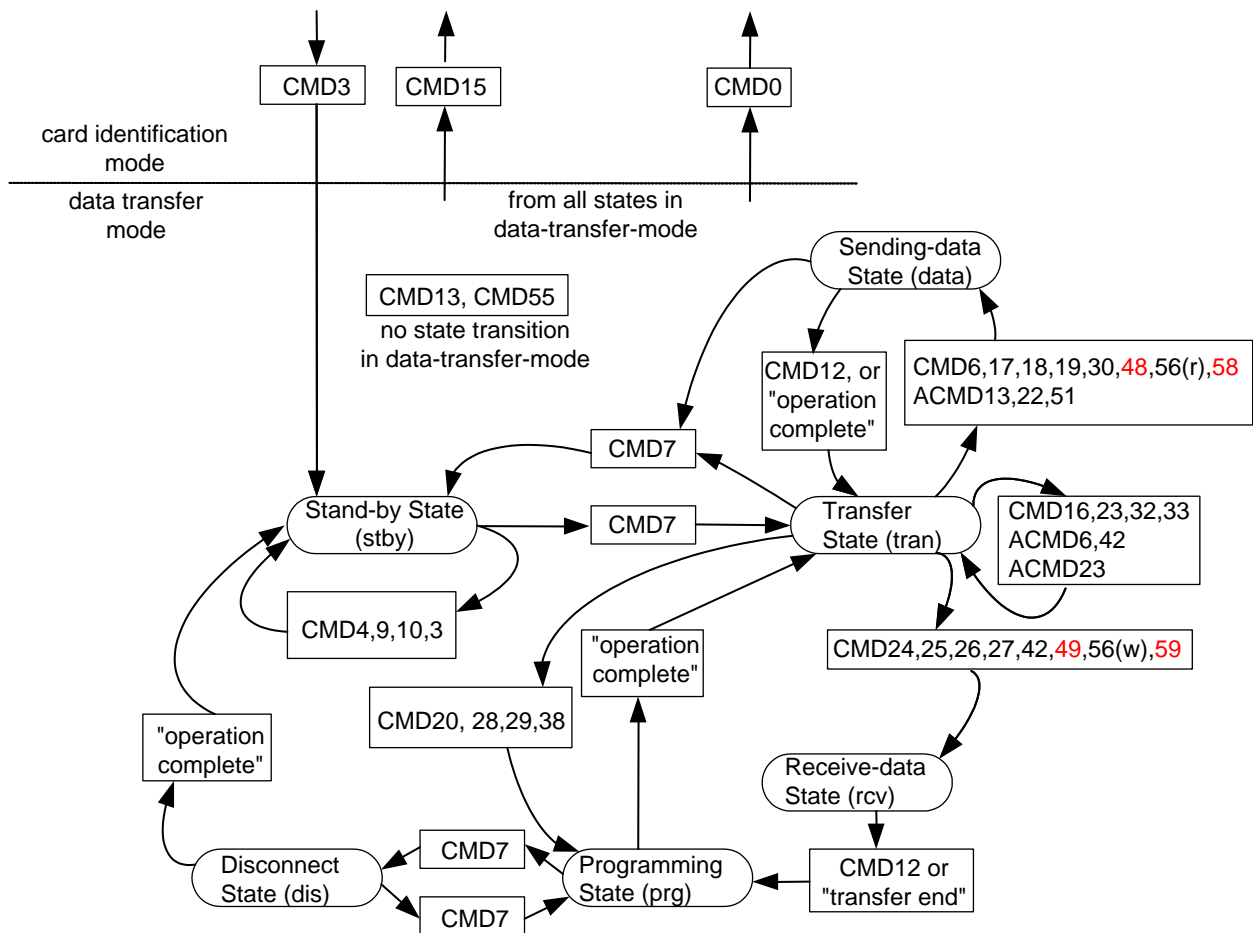

Figure 4-13: SD Memory Card State Diagram (data transfer mode)
- All data read commands can be aborted any time by the stop command (CMD12). The data transfer will terminate and the card will return to the *Transfer State*. The read commands are such as block read (CMD17), multiple block read (CMD18), send write protect (CMD30), send SCR (ACMD51) and general command in read mode (CMD56). (Refer to Figure 4-13 for more details.)
- All data write commands can be aborted any time by the stop command (CMD12). The write commands shall be stopped prior to deselecting the card by CMD7. The write commands are such as block write (CMD24 and CMD25), program CSD (CMD27), lock/unlock command (CMD42) and general command in write mode (CMD56). (Refer to Figure 4-13 for more details.)
If all write buffers are full, and as long as the card is in *Programming State* (see SD Memory Card state diagram Figure 4-13), the DAT0 line will be kept low (BUSY).